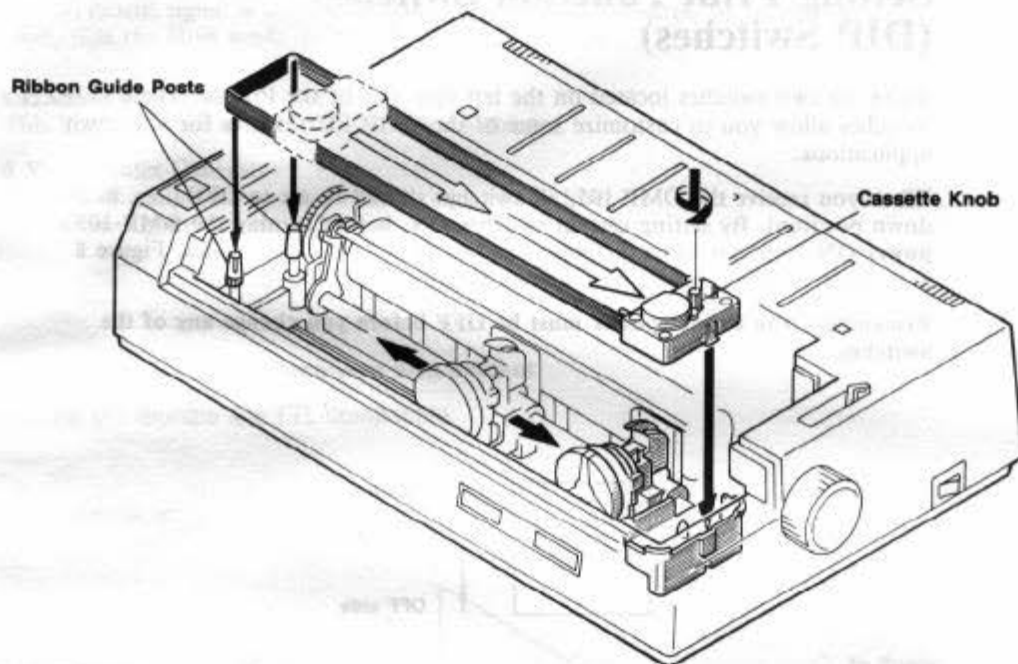

Figure 7. Ribbon Cassette Installation
9. Keep moving the Carriage and check that the ribbon advances properly. If the ribbon has not been properly fitted between the Ribbon Guide and Print Head (i.e., into the Print Head Ribbon Guide Bezel), the ribbon feed will not operate smoothly. (See Figure 7.)